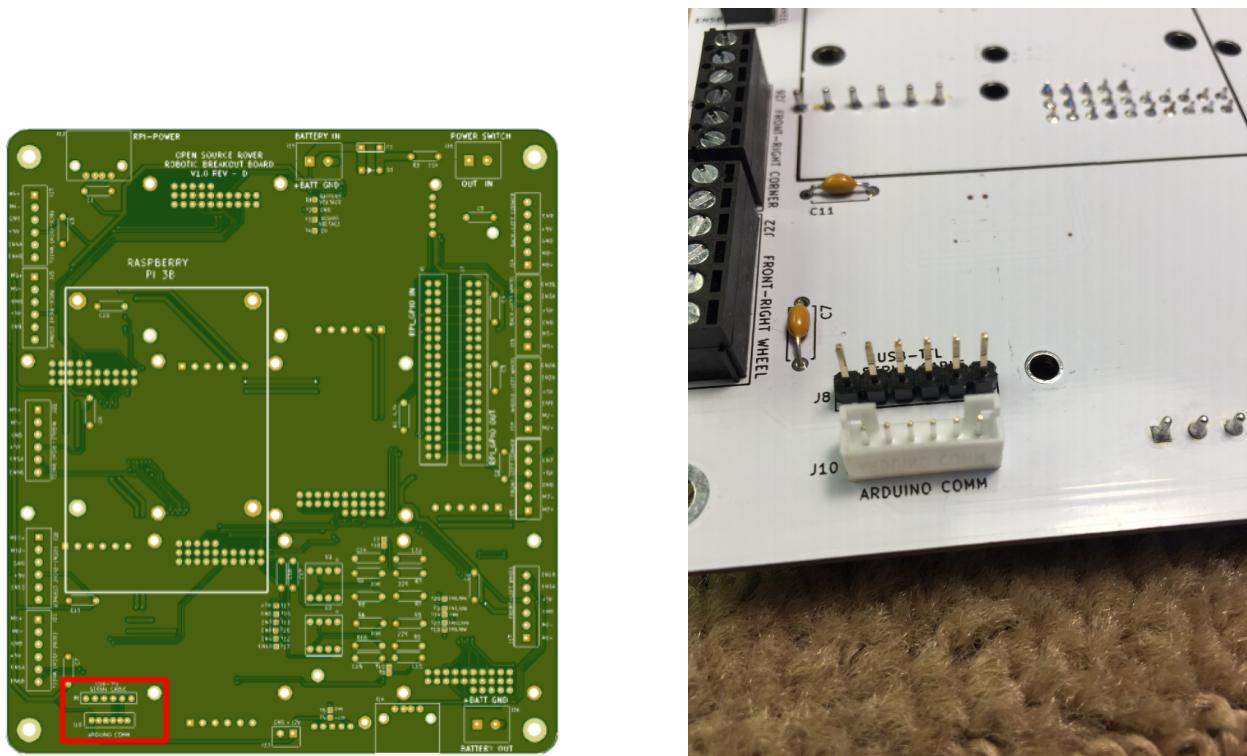

Figure 9: Assembly Step 9
2. Take the 40 pin header pins **E15** and break off a 6-pin segment. On the **top** of the board, solder the 6-pin segment into schematic reference designator **J8**. Then, solder the JST connector **E14** into the **J10** schematic reference designator. The opening in the pins on the JST connector should face **INWARD** as shown in Figure 9.